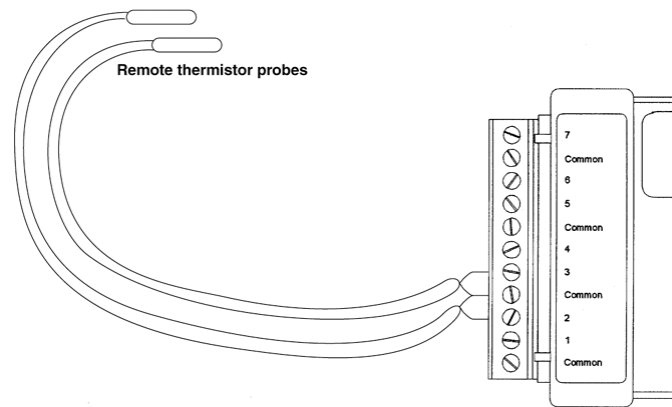

Figure 8-2: Connecting External Temperature Probes
3. To connect remote temperature probes (two-wire), simply connect one lead into an active channel (labeled **1** to **7**) and the other into a terminal marked "**Common**". It does not matter which lead goes to which terminal. You can connect more than one thermistor probe lead to the same **Common** terminal. For example, Figure 8-2 shows two external probes connected to channels 2 and 3 sharing the same **Common** terminal. If you are using a thermistor probe with shielded cable, terminate the shield wire by connecting it to